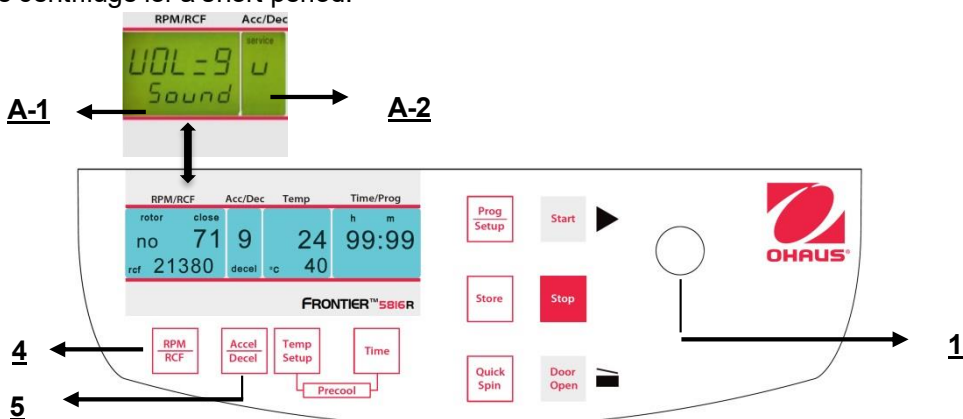

Figure. 33
Proceed as described under point 4.1.1 to enter this program mode and then press the key **"Accel/Decel"** (5). In the display **"Acc/Dec"** (A-2) the word **"Service"** flashes. Now select the letter **"U"** with the adjusting knob (1). As a result, in the display **"RPM | RCF"** (A-1) the words **"Vol=0- 9/Sound"** appear. After pressing the key **"RPM | RCF"** (4), you can adjust the desired volume between 0 (low) and 9 (loud) with the adjusting knob (1) (See figure 33). After you have stored the settings (see 4.1.1) you can change back to the normal program mode again by switching off the centrifuge for a short period.